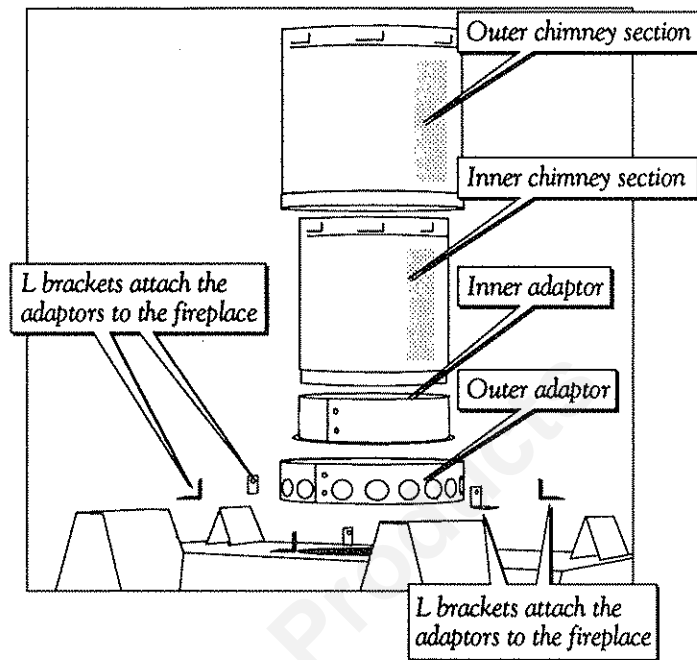

Figure 25. Inner and outer chimney adaptor orientation.
Step 5. Use the inner and outer chimney adaptors and L brackets to secure the chimney to the fireplace. See Figure 25. **NOTE:** Insulated chimney manufacturers supply their own anchor plates. Do not use the adaptors supplied with the fireplace.